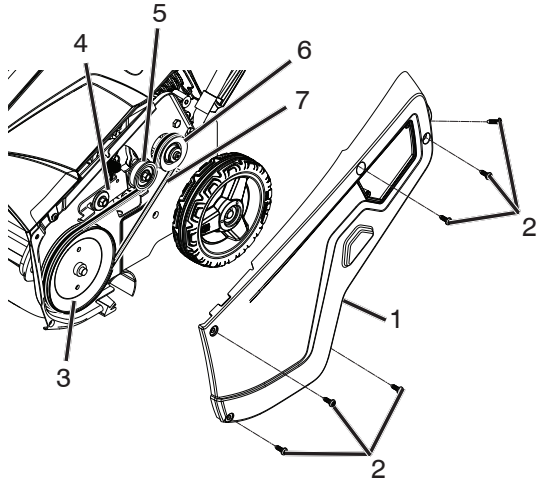

Figure 34
1. Remove the drive side cover by removing the six screws as shown in (Figure 34).